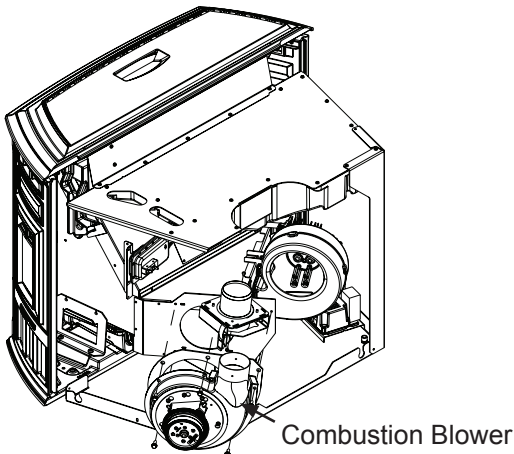

Figure 5
- The combustion blower is mounted in the bottom right rear of the appliance. **Figure 5.**